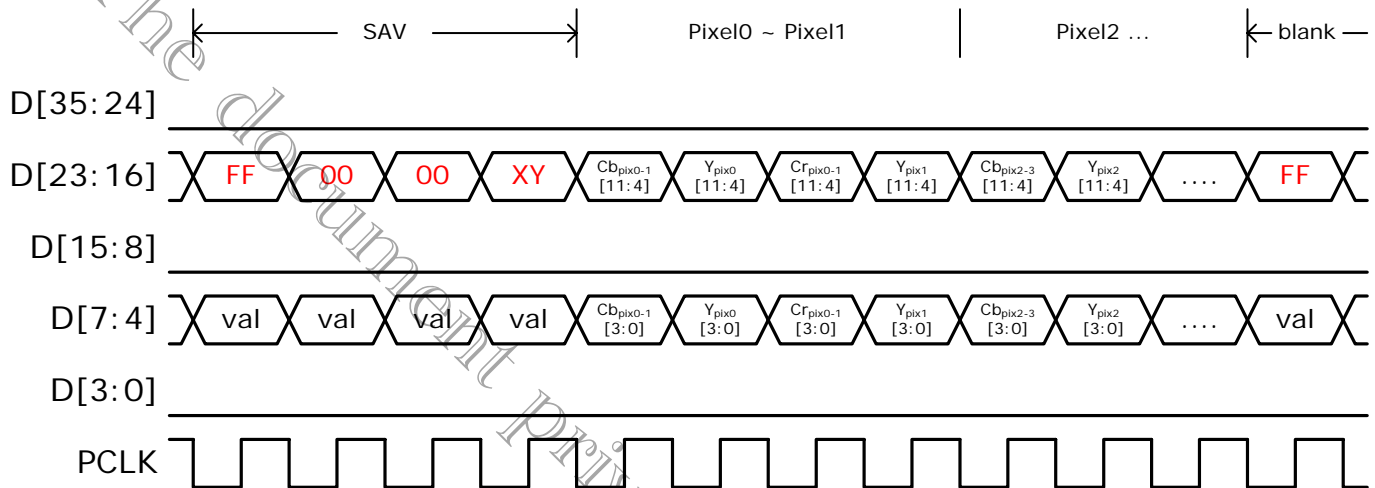
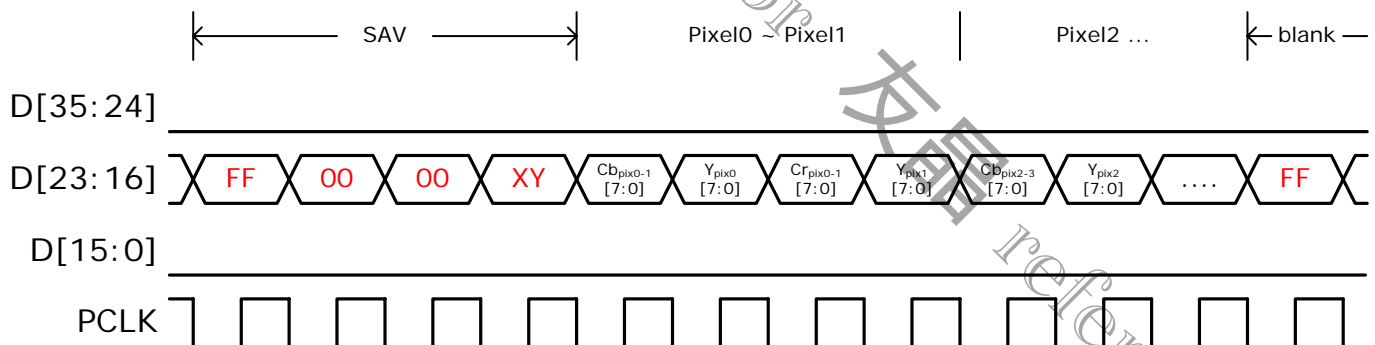

Figure 11. 12-bit CCIR-656
Figure 12. 8-bit CCIR-656
by half compared from the previous YCbCr 4:2:2 formats, to either 8-bit, 10-bit or 12-bit. To compensate for the halving of data bus, PCLK frequency is doubled. With the double-rate output clock, luminance channel (Y) and chroma channels (Cb or Cr) are alternated. Normally this mode is used only for 480i, 480p, 576i and 576p. The IT6613 supports CCIR-656 format of up to 720p or 1080i, with the doubled-rate clock running at 148.5MHz. CCIR-656 format supports embedded syncs only. Figure 11 and Figure 12 give two examples.